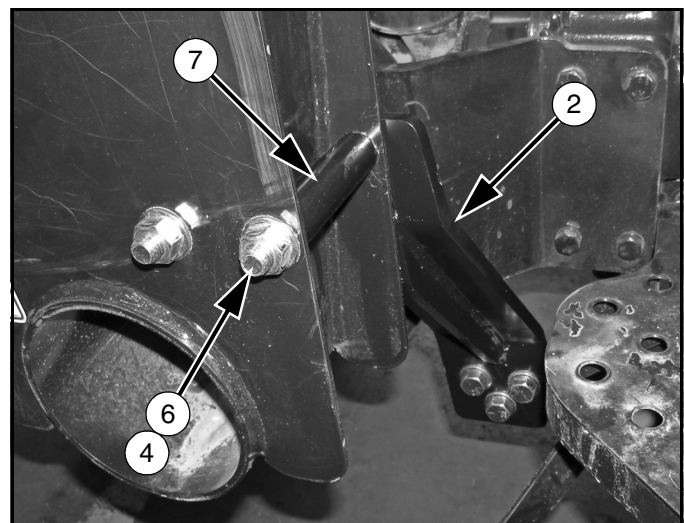

Figure 5. Left Backhoe Bracket Installed
2. Attach right backhoe bracket (1) to the inside of New Holland loader mount and toolbox bracket (3) to the outside of loader mount.
3. Secure using two cap screws (4), hardened flat washers (5), one tube support (7) and two flange lock nuts (6).
- NOTE:** Tube support (7) is placed between the two rear holes on the mount.
4. Attach toolbox to toolbox bracket (3) using hardware previously removed.
5. Repeat steps to install left backhoe bracket (2) to left loader mount. See Figure 5.